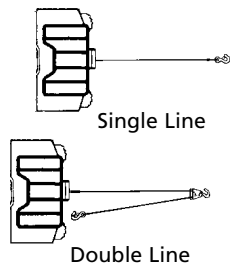

Figure 2
** All loads shown are for single-line operation. Double-line operation with optional pulley block (see Figure 2) approximately doubles capacity of winch.
1. Maximum working load capacity is on the wire rope layer closest to the drum. **DO NOT OVERLOAD. DO NOT ATTEMPT PROLONGED PULLS AT HEAVY LOADS.** Overloads can damage the winch and/or the wire rope and create unsafe operating conditions. **FOR LOADS OVER 1,000 POUNDS (454 kg), WE RECOMMEND THE USE OF THE OPTIONAL PULLEY BLOCK TO DOUBLE LINE THE WIRE ROPE (Figure 2).** This reduces the load on the winch and the strain on the wire rope by approximately 50%. Attach hook to load bearing part. **The vehicle engine should be running during winch operation.** If considerable winching is performed with the engine off, the battery may be too weak to restart the engine.
3. **USE A PULLEY BLOCK FOR HEAVY LOADS.** To maximize winch and wire rope life, use a pulley block to double line heavier loads (Figure 2).